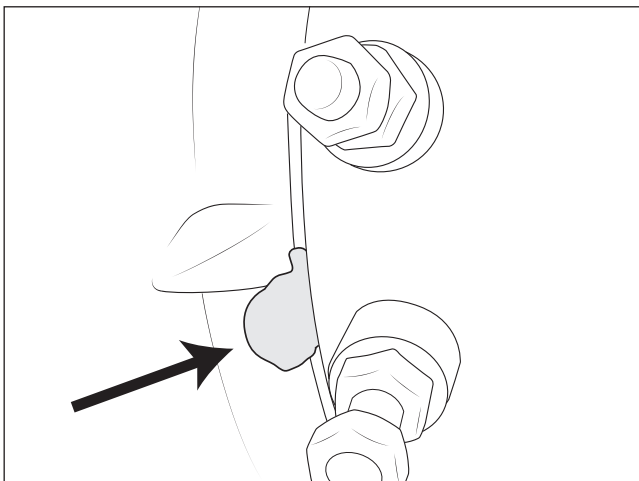

Figure 13
3. Clean the silicone out of the mating surface. Be careful not to tear the gasket (fig. 13).